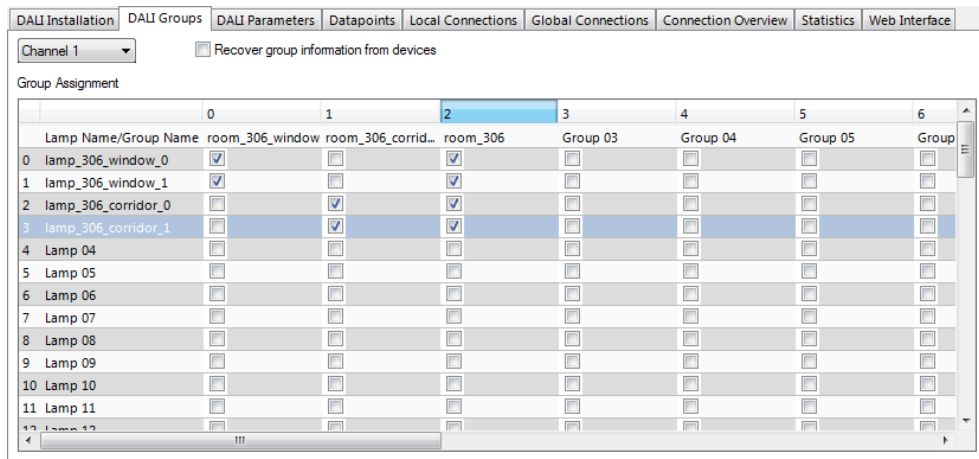

Figure 23: LINX Configurator software, DALI group configuration.
- Add the two lamps near the window to group 0, the two lamps near the corridor to group 1 and add all lamps in the room to group 2. Assign names to the groups as shown in Figure 23.